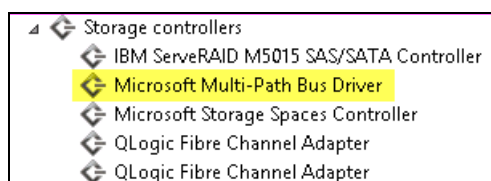

Figure 3-2 Microsoft Multi-Path Bus Driver
4. Check that the driver is installed correctly by loading **Device Manager**. Verify that it now includes Microsoft Multi-Path Bus Driver, as shown in Figure 3-2.